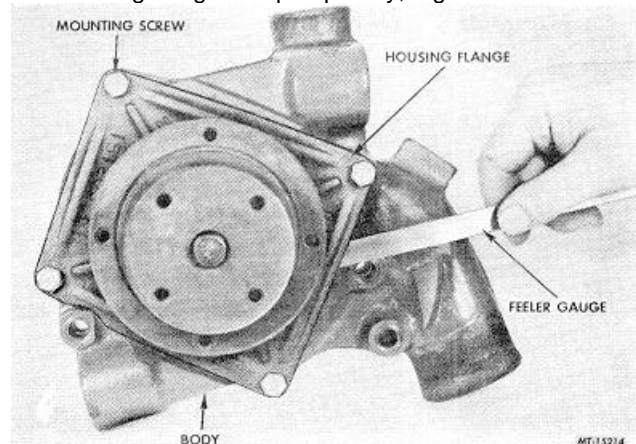

Fig. 137
6. Place pump assembly in position in the pump body and install four mounting screws finger tight, Fig. 137.
7. Use feeler gauge to check the clearance between the housing flange and pump body, Fig. 137.